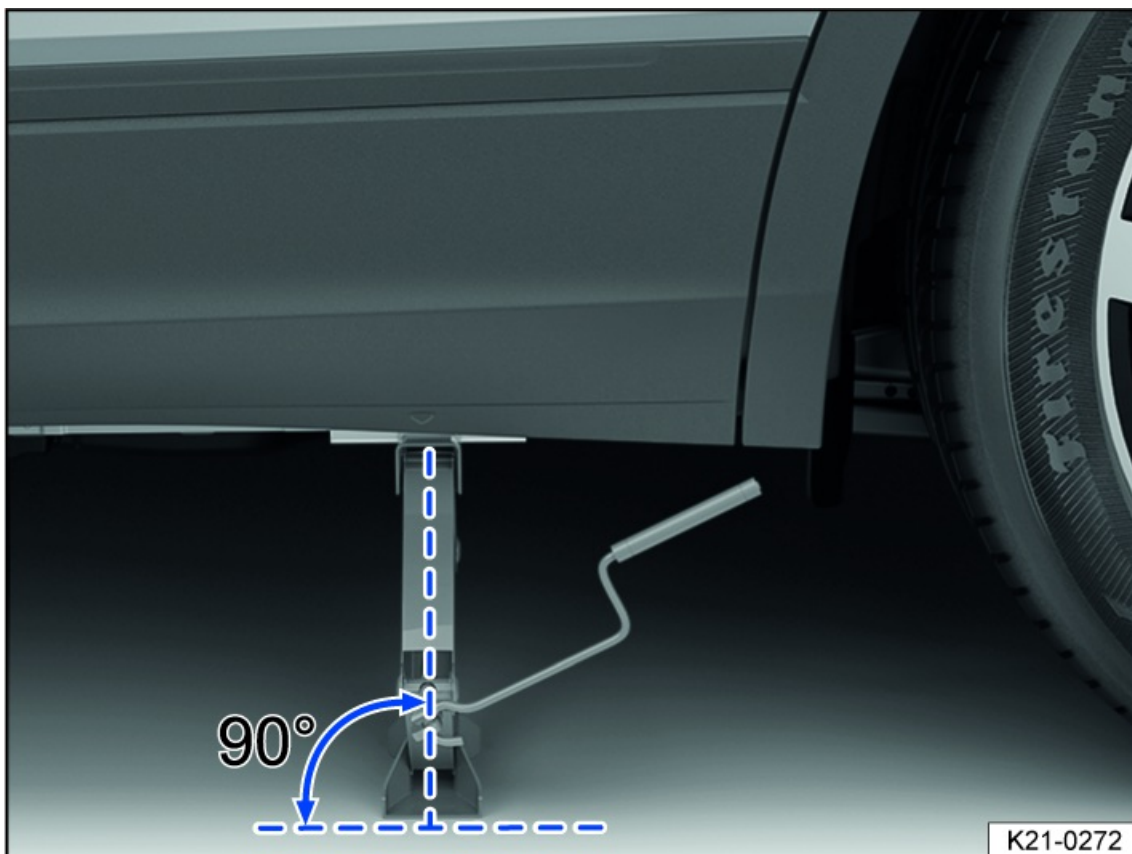
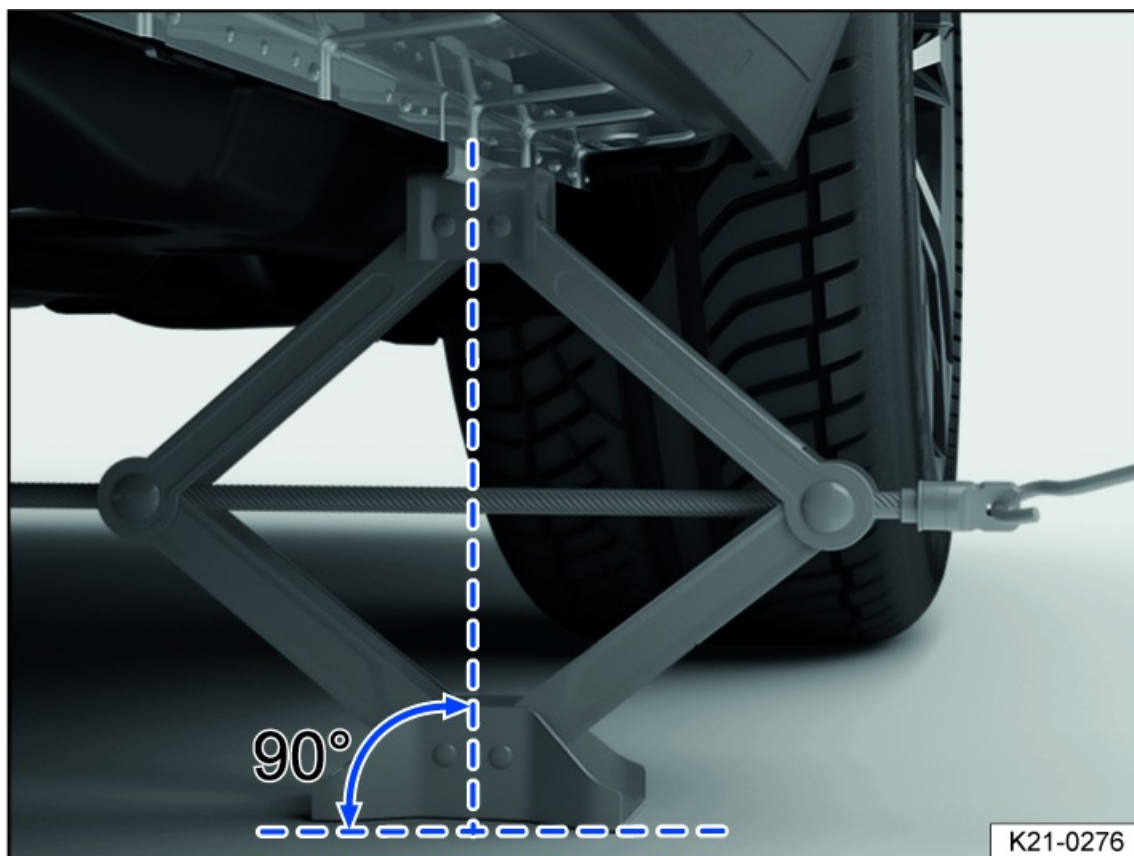

Fig. 227 Correct jack setup.
Fig. 228 On the left side of the vehicle at the rear: jack in position.
4. Make sure the entire base of the jack is seated securely on the ground and that the base of the jack is located exactly directly below the lift point fig. 227 and fig. 228.
5. Straighten the jack and continue cranking the claw on the top of the jack upward until the claw is positioned on the jacking point under the vehicle fig. 228.
- Only place the vehicle jack at the lift points described. The bracket on the vehicle jack must firmly grip the sill fig. 228.